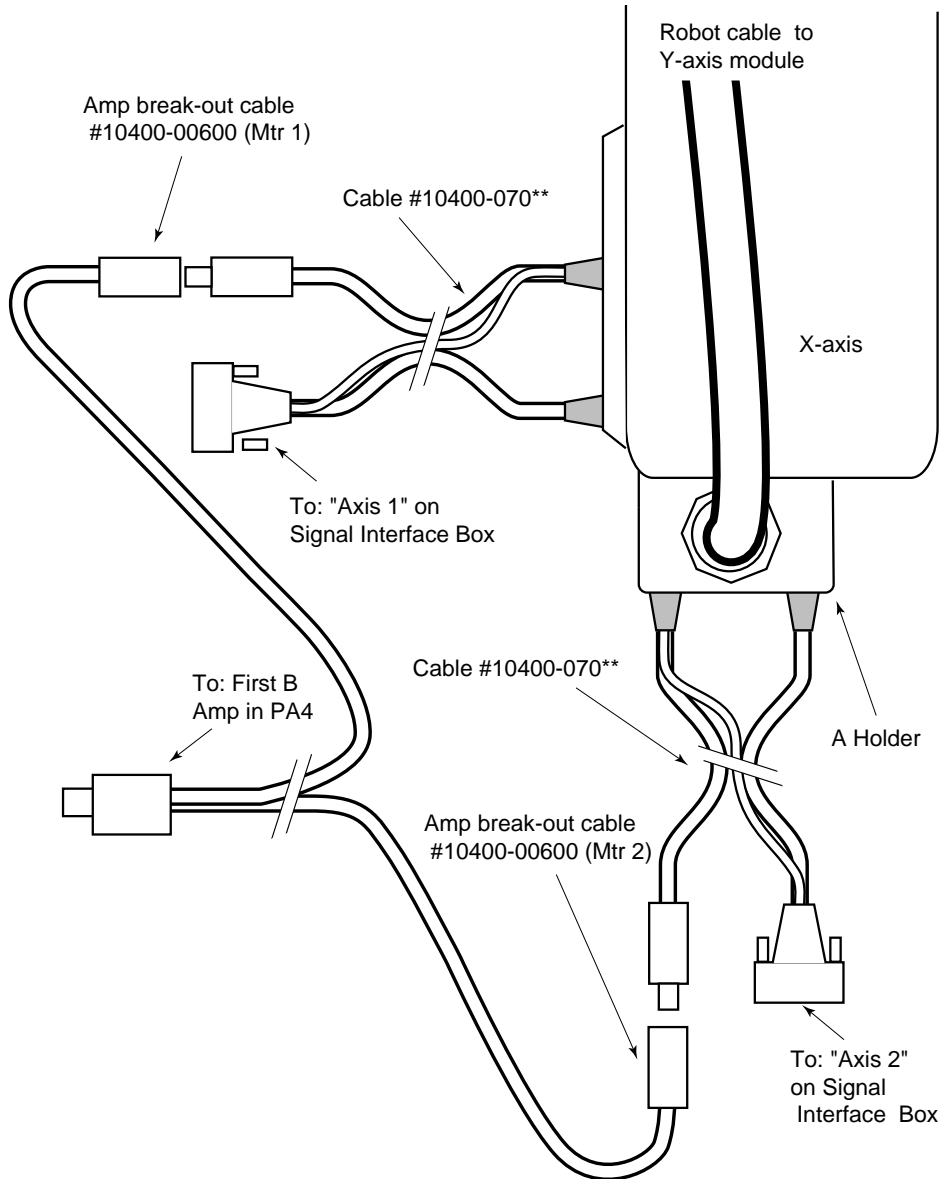

Figure 4-42. Connecting to an Adept MV Controller
- a. Connect the two barrel ends of the cable to the X-axis module as shown in Figure 4-42. These connectors have different pin sizes and cannot be installed incorrectly.
- b. Attach the A holder end of the robot cable to the motor end face of the X-axis module as shown in Figure 4-42 (refer to Section 4.3 for holder mounting).
- d. Connect the two barrel ends of the controller cable to the Z-axis robot cable holder on the X-axis module as shown in Figure 4-42. These connectors have different pin sizes and cannot be installed incorrectly. The other ends connect to the controller connections marked "2-CN6 MOTOR 2" and "2-CN5 SENSOR 2".